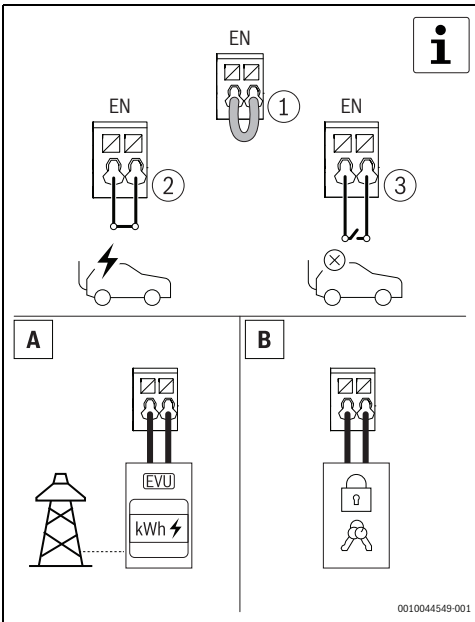

Fig. 47 Optional digital input
- Unlock the Power Charge 7000i with the RFID card, the app, or via the external blocking device. This step is optional (→ Fig. 47 and 6.1.5, page 42).